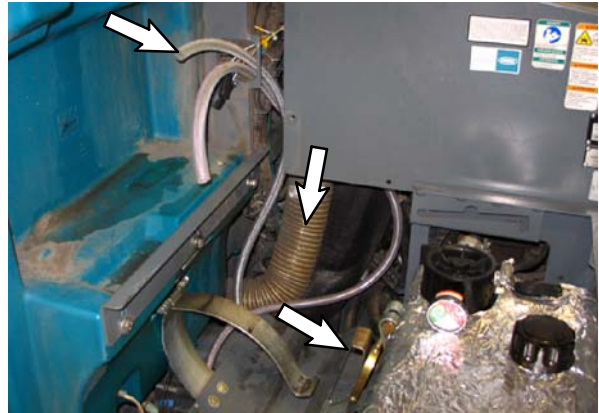

FIG. 9
19. **Machines Without Side Brush Option Only:** Route the 60" PVC hose from the operator compartment, down along the frame center beam, and to the scrub head. Refer to Fig. 9.